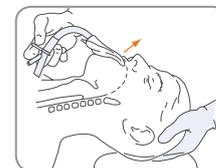

Fig 3: Press the tip of the mask against the hard palate.
- ▶ Hold the LMA Supreme™ by the proximal end with the hollow side facing downwards and the distal end pointing towards you, Figure 3